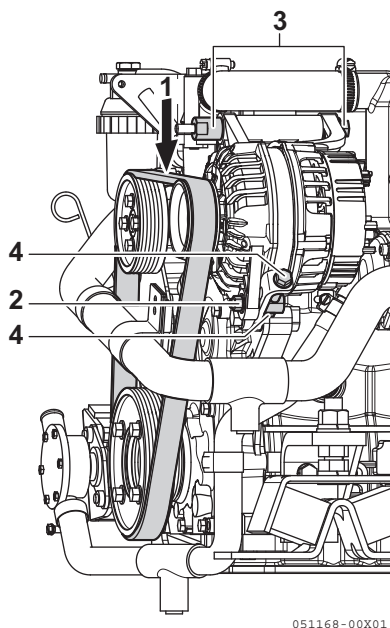

Figure 3
2. Check the belt by pushing on the middle of the belt **(Figure 3, (1))** with your finger.
3. Loosen the 3 bolts of alternator **(Figure 3, (2) (3) (4))**.
4. Screw in the adjusting bolt **(Figure 3, (4))** and move the alternator to adjust the belt tension properly.